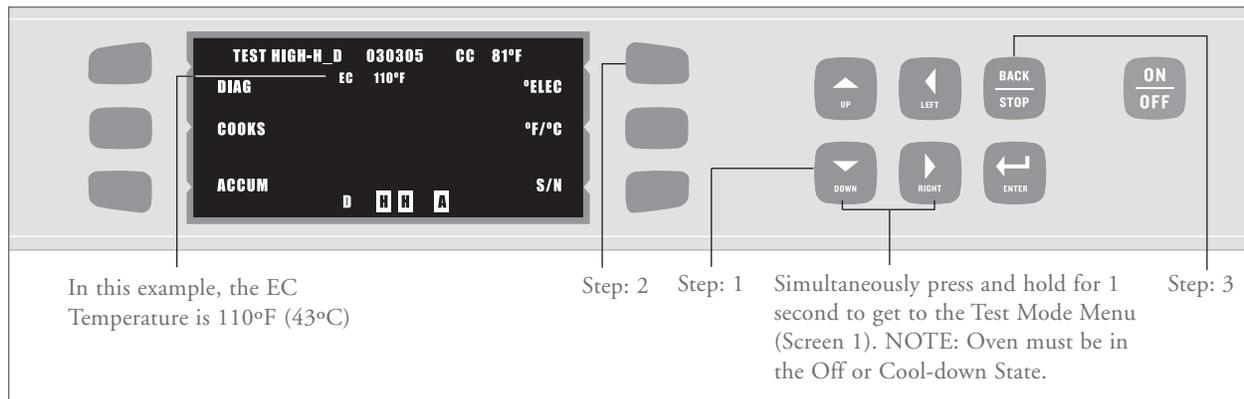

FIGURE 36: Viewing the Electrical Compartment (EC) Temperature
Viewing the Electrical Compartment (EC) Temperature (Figure 36)